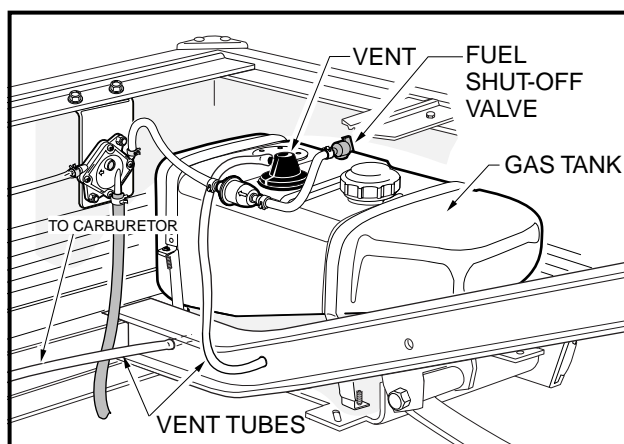

Figure 10-5 Fuel Tank
- If the vehicle has an all-weather enclosure installed, the gas tank must be properly vented as shown (Figure 10-5, Page 10-7).